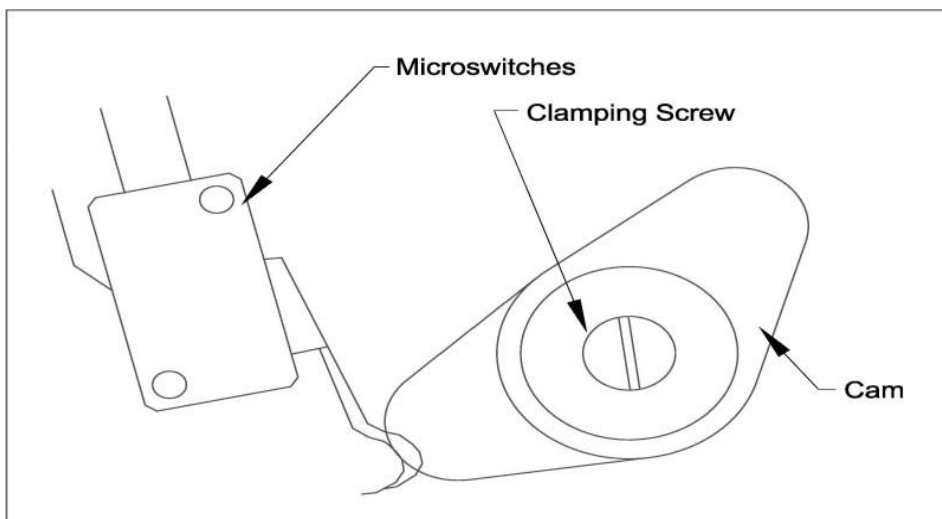

Figure 5: Limit switches
6. Connect power (12-volt 24 volt or solar) to the primary operator and connect the battery. The limit switches may now be adjusted (see figure 5) Each of the